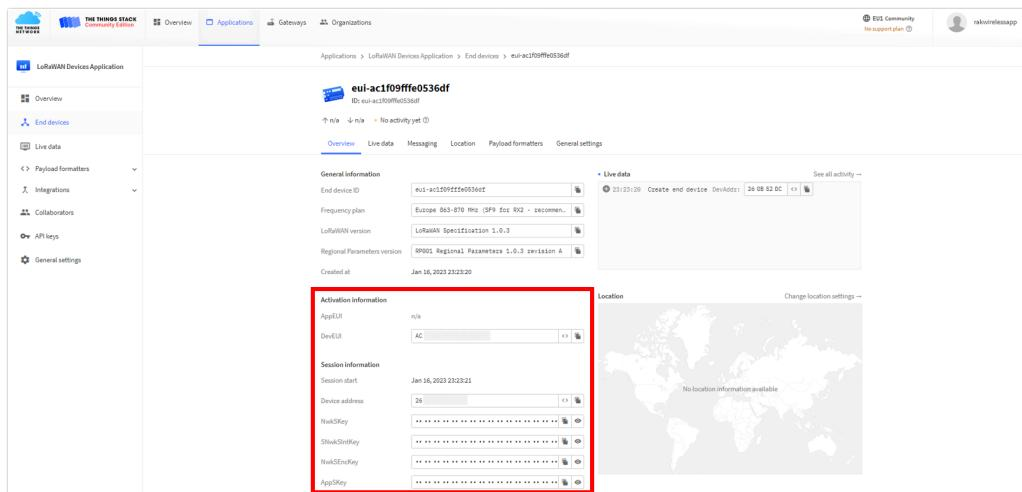

Figure 133: ABP device successfully registered to TTN
6. You should now be able to see the device on the TTN console after you fully register your device, as shown in **Figure 133**.